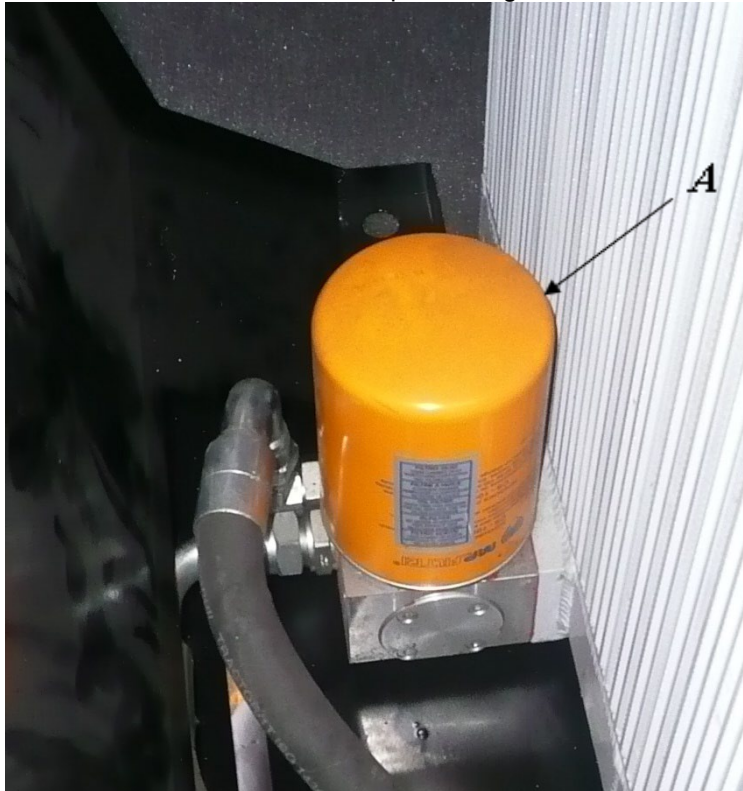

Figure 13.4-6 Compressor oil filter
- 2) Use a chain wrench to unscrew the filter to be replaced (A - Figure 13.4-6);